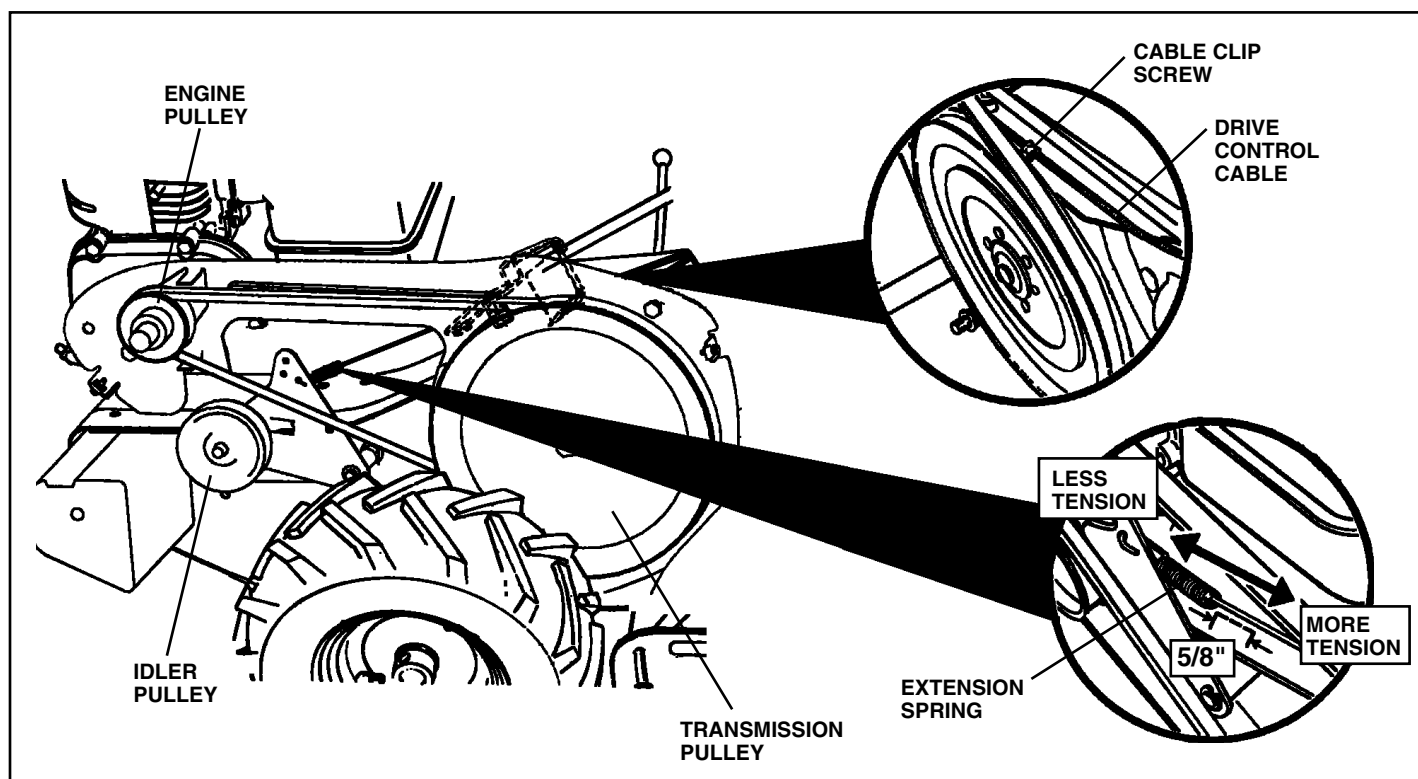

FIG. 28
- New tines should be assembled as shown in Fig. 28. Sharpened tine edges will rotate rearward from above.
GROUND DRIVE BELT ADJUSTMENT (See Fig. 28)